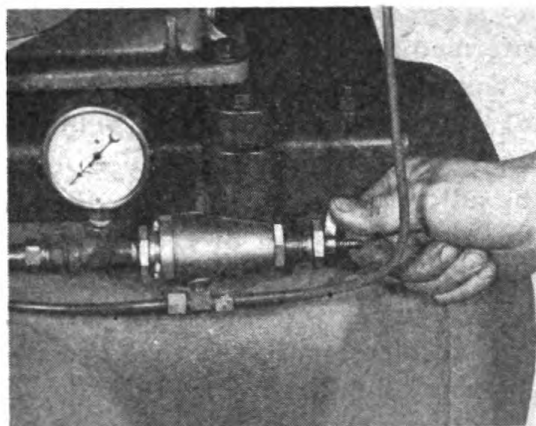
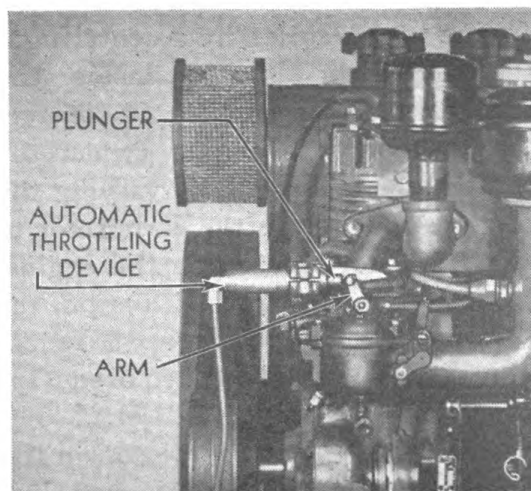

Figure 48
Figure 49
(2) When adjustment of throttle stop screw is changed it may also be necessary to change setting of the automatic engine throttling device. To do this, first manually unload the compressor by turning wing nut on VD Pilot clockwise (See Figure 48). When the compressor is unloaded the plunger (See Figure 49) of the automatic throttling device will be in the extreme outer position holding the carburetor arm in idling position. The manner in which this adjustment is made depends upon the type of automatic throttling device used on the particular unit being serviced:
After adjustment is made, back off wing nut on VD Pilot (See Figure 48) at least one thread away from hexagon screw.